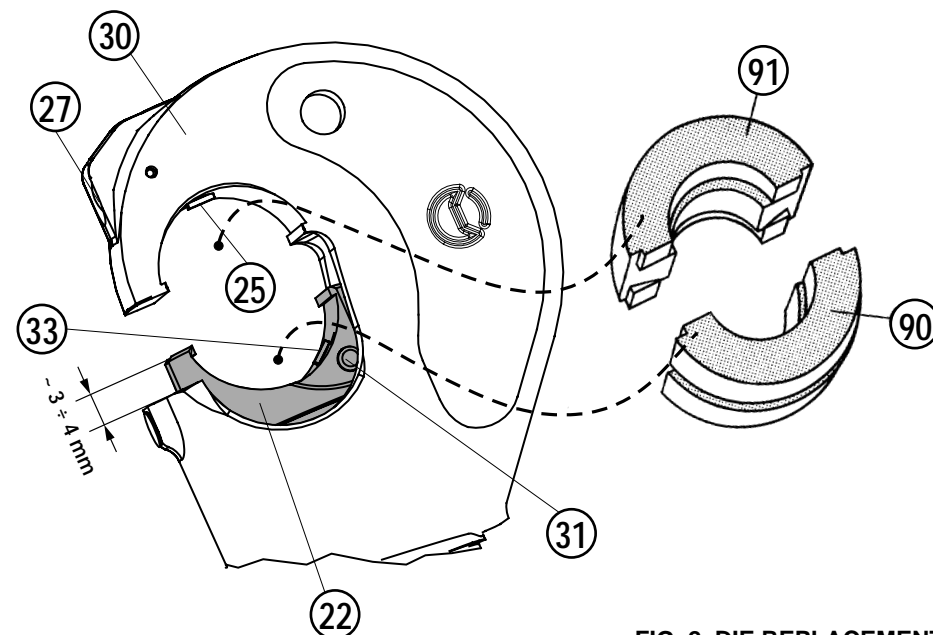

FIG. 2 DIE REPLACEMENT
3. DIE REPLACEMENT (Ref. to Fig. 2)